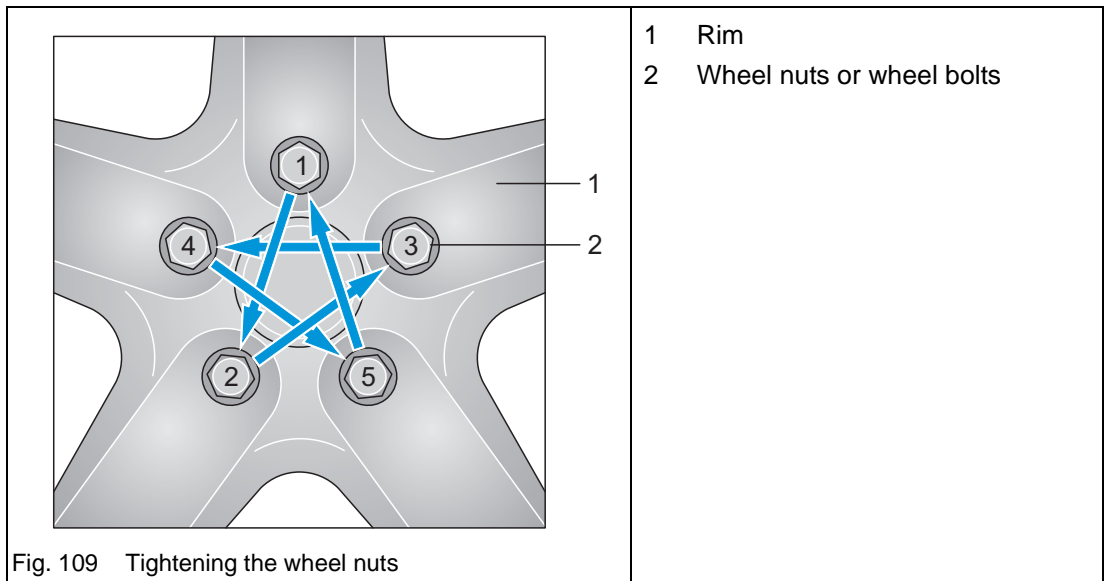

Fig. 109 Tightening the wheel nuts
- ➔ Tighten the wheel nuts or wheel bolts (Fig. 109/2) in the sequence 1 - 2 - 3 - 4 - 5.